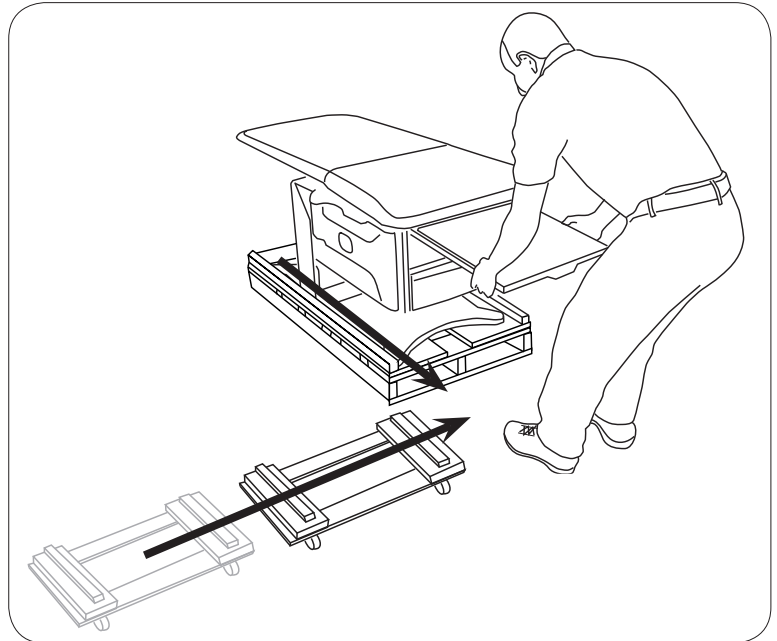

Figure 14. Slide table off of pallet
15. Slide table partially off of pallet and stop when there is sufficient room to place furniture dolly beneath base of table. Finish pulling table onto furniture dolly (Figure 14).